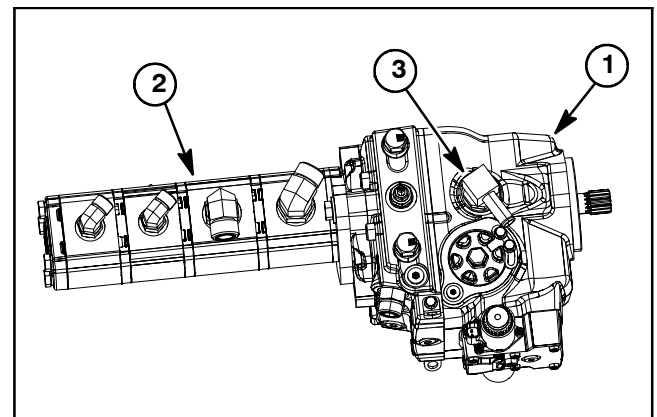

Figure 65
7. Fill piston pump housing through case drain (90° barbed fitting) with new hydraulic oil (Fig. 65). This will ensure that internal pump components have adequate lubrication during initial operation.